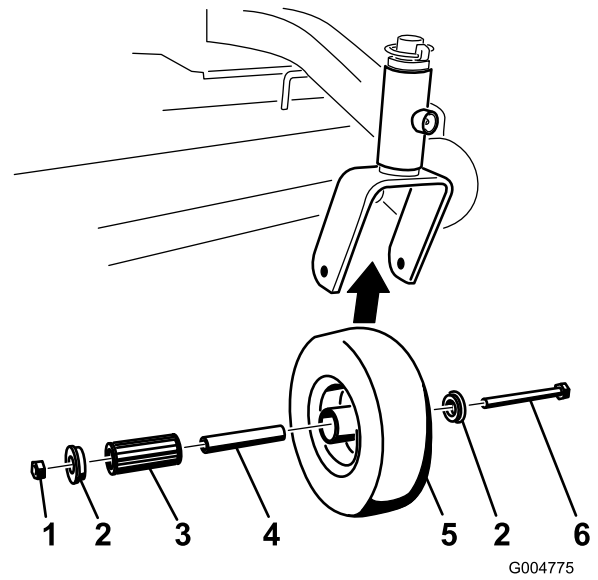

Figure 34
- Remove one bushing, then pull the spanner bushing and roller bearing out of the wheel hub (Figure 34).
- Remove the other bushing from the wheel hub and clean any grease and dirt from the wheel hub (Figure 34).
- Inspect the roller bearing, bushings, spanner bushing and inside of the wheel hub for wear. Replace any defective or worn parts (Figure 34).
- To assemble, place one bushing into the wheel hub. Grease the roller bearing and spanner bushing and slide them into the wheel hub. Place the second bushing into the wheel hub (Figure 34).
- Install the caster wheel into the caster fork and secure with the wheel bolt and locknut. Tighten the locknut until the spanner bushing bottoms against the inside of the caster forks (Figure 34).
- Remove the locknut and wheel bolt holding the caster wheel to the caster fork (Figure 34).